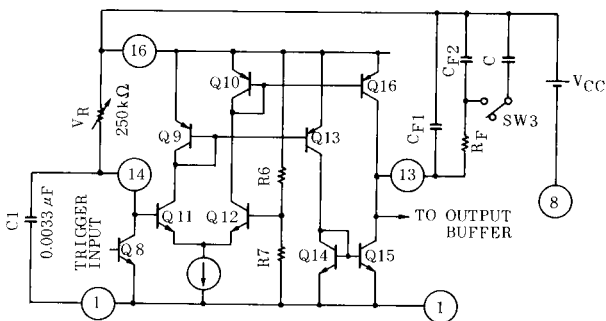

Figure 2. Sawtooth generating circuit, comparison circuit and integrating circuit
5. Sawtooth generating circuit, comparator circuit and integrating circuit are shown in figure 2.